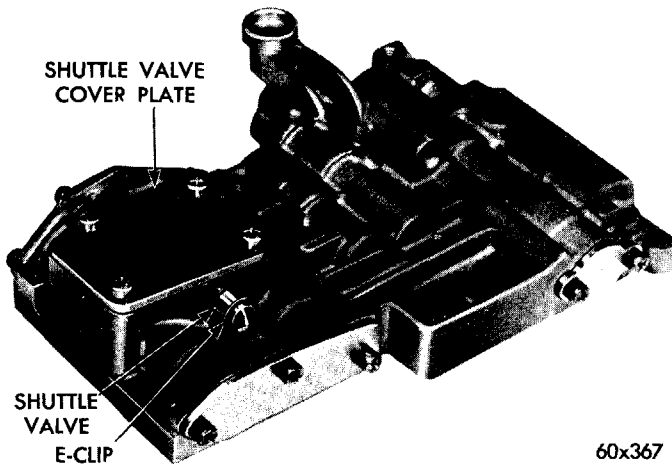

Fig. 37—Shuttle Valve Cover, Shuttle Valve and Retaining E-Clip (Assembled View)
- (10) Remove the manual valve, carefully slide it out of valve body with a rotating motion.
- (11) Remove throttle lever and shaft from the valve body.
- (12) Remove shuttle valve cover plate (Fig. 37). Remove E-clip from the exposed end of shuttle valve.
(4) Install E-clip on end of shuttle valve (Fig. 37). Install shuttle valve cover plate and tighten the four retaining screws to 25 inch-pounds torque.